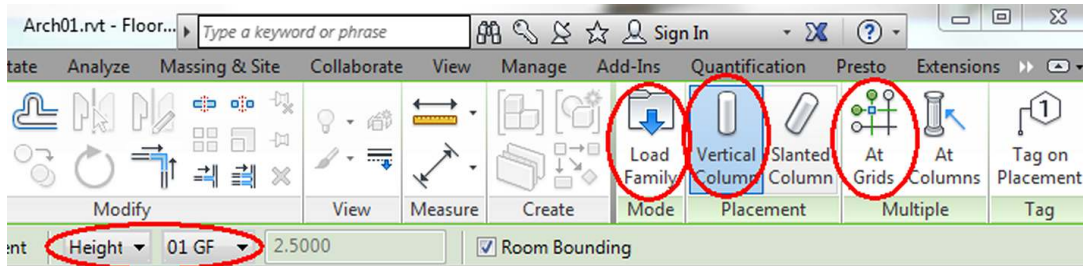

Fig. 2.2 – Column placement
14. Multiple Panel → At Grids (Fig. 2.2).
2. Height = Roof (Fig. 2.2).